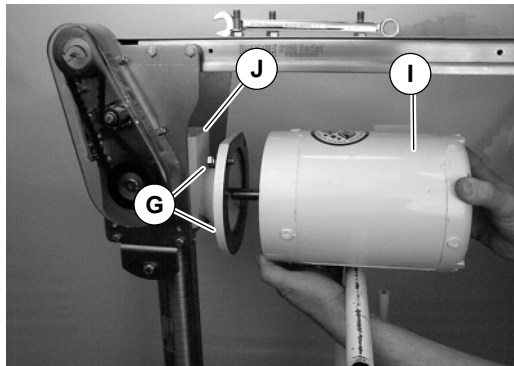

Figure 11
9. Attach gear motor (I of Figure 11) to gear reducer (J) with screws and washers (G of Figure 10). Tighten to 32 ft-lb (41 Nm).